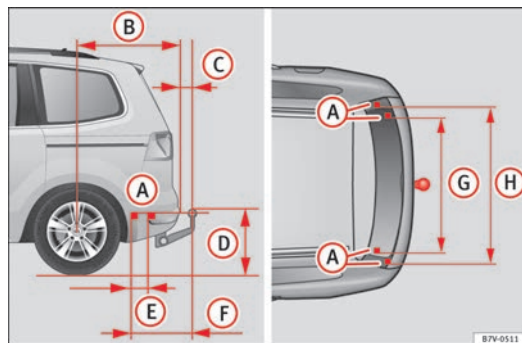

Fig. 159 Measurements and attachments to retrofit a tow hitch.
In any case, the separation distances must be observed when fitting a tow hitch. The distance between the centre of the tow hitch ball and the road surface → fig. 159 D must never be lower than that indicated. This also applies when the vehicle is fully laden, including maximum drawbar load.
**Separation distances** → fig. 159:
- (A) Attachment points.
- (B) 1,040 mm (41 inches)
- (C) 74 mm (3 inches)
- (D) 364 mm (14 inches)